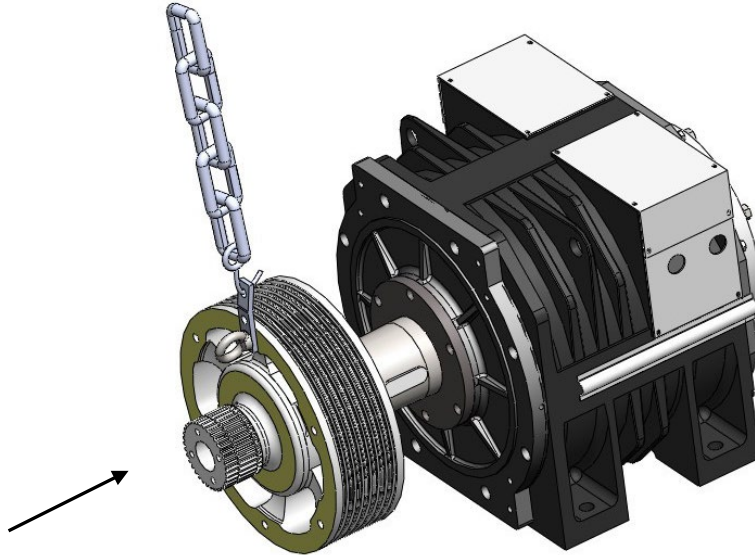
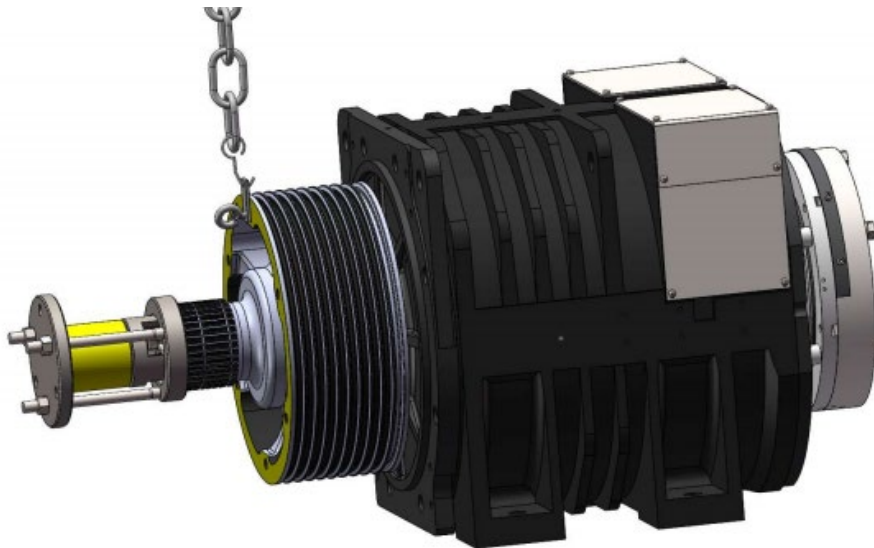

Figure 64 Locate Sheave
Figure 65 Press Sheave onto shaft
2. Hoist the sheave and align the keyway of the sheave with the key, then pull it into the machine shaft. Use the hydraulic jack apparatus to press the sheave on with 15 metric tons of pressure. See Figure 64 and Figure 65.